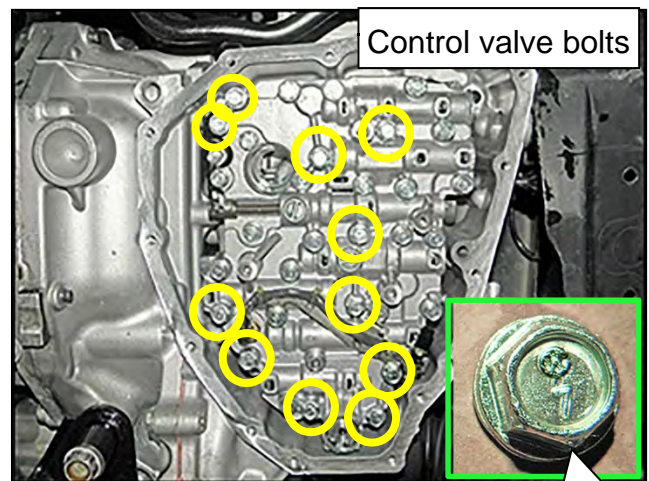

Figure 26
13. Remove ONLY the eleven (11) control valve bolts circled in yellow with markings as shown in Figure 26.